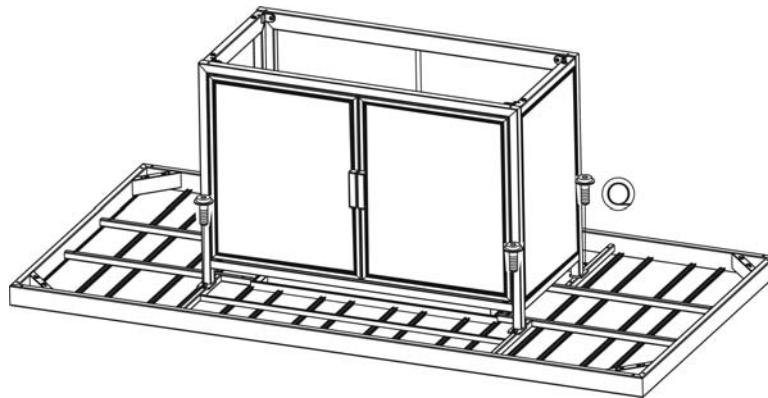

Figure 5
5. Place the fire pit table top upside down on a flat, non-abrasive surface. Attach the completed fire pit base to the table top by using four 1/4" x20 mm bolts as shown in Figure 5. Hand tighten only 2-3 turns.